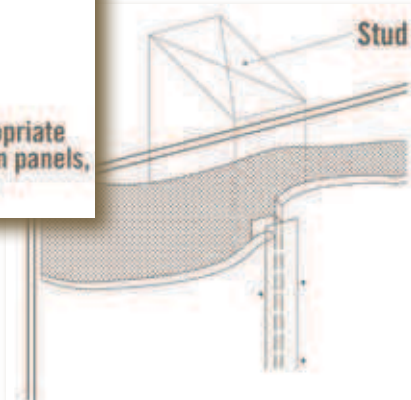

Fig. 8.3
- Use metal or PVC H-channel connector in accordance with manufacturer's instructions. (Fig. 8.3)